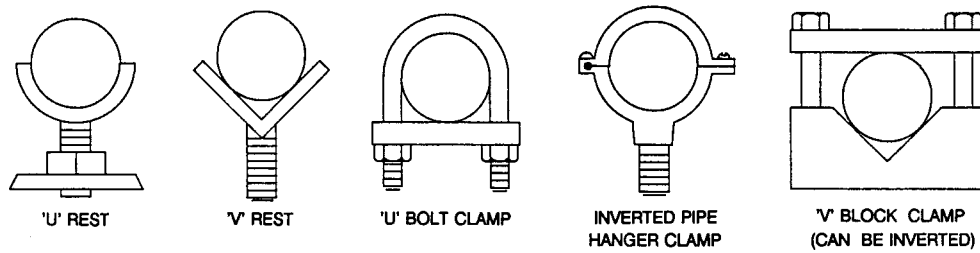

Figure 7. Recommended Pipeline Supports
3. Provide upstream and downstream flowline supports. Supports may extend from floor, ceiling, or wall, as convenient, but should not be firmly secured to the pipeline at this time. Refer to Figure 7 on page 14 for types of recommended pipeline supports. Note that “rest type” supports should not be used for flowtube sanitary connection types L, M, N, and P.